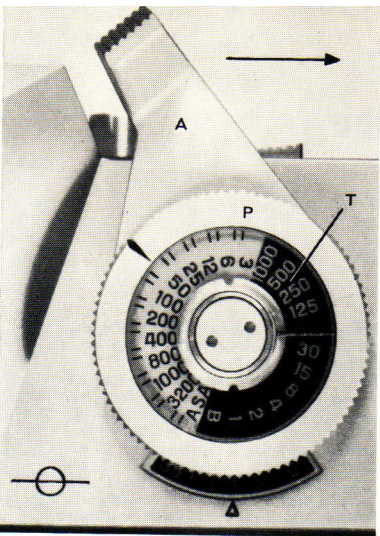

Fig. 1
The high speed, short stroke winding lever (A Fig. 1) cocks the shutter, advances the film and counts the exposures. Because of the short travel of only 160° and its 3 separate functions you feel a certain resistance. If you do not wind the lever completely to its positive stop, the shutter release will be blocked. Just wind it once more, without any force, to unblock it.
For fine adjustments you have a choice of 2 each intermediate click stop settings between (Fig. 1).
The extreme extension mount (E) focuses from infinity all the way down to 7", from the front of the lens. The white figures indicate the distances in feet and inches. The red figures give the image-to-subject or reproduction ratio. The last figure 1/3 indicates that the photograph will be 1/3 of the actual size. The green figures give the exposure factors, which are also automatically indicated by the behind-the-lens CdS meter (see page 13).